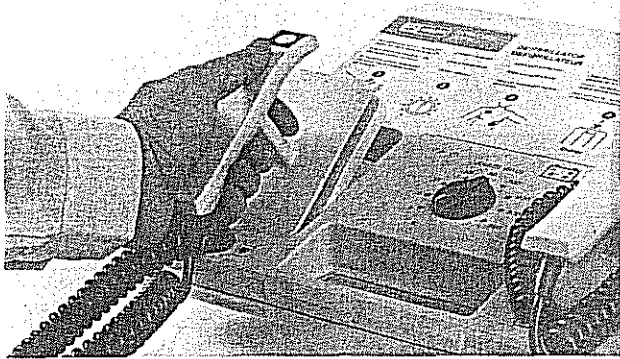

Figure 7
- * Take the electrodes out of their holders (only as indicated in Figure 7) and cover the contact surfaces with a thick layer of electrode cream.